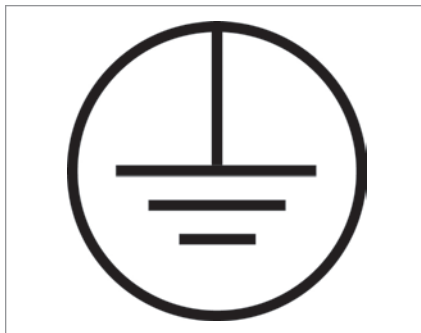

Figure 2: The incorrect drawing of IEC 5019 as shown in the *NFPA 70-2011 National Electrical Code*.
– connection of sensitive electrical equipment or circuits directly to the PE circuit or to a functional earthing conductor (FE) (see Figure 2), to minimize common mode disturbance. This latter terminal should be marked or labeled with the symbol IEC 60417-5018:
From a U.S. perspective, you might think to look at the *NFPA 70-2011 National Electrical Code* for guidance on this subject. Don't. This code's advice on using ground symbols is useless because they show an illustration of a symbol drawn incorrectly (see Figure 2 - note how the vertical bar touches the circle). The NFPA 70 code indicates that this is an "informational note figure" and that it is "one example of a symbol used to identify the termination point for an equipment grounding conductor". These words leave you to wonder about the other symbols that might exist and where and how you might best use them. Clearly, IEC 60204 is more useful on this topic.